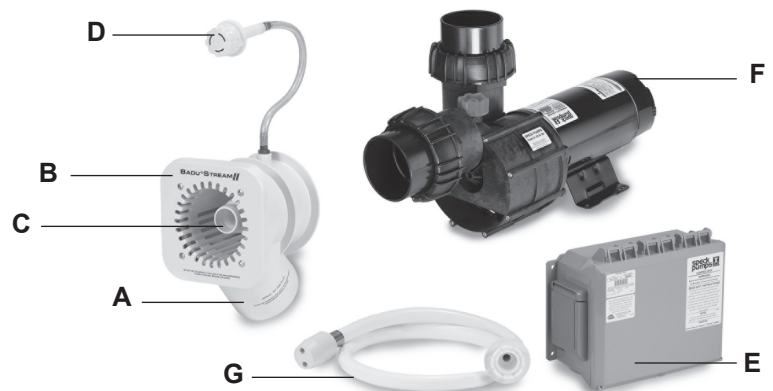

Figure 1
1. Upon receipt of the swimjet system, check the cartons for damage. Open the carton and check the pump (F), jet housing (A), and control box (E) for concealed damage, such as cracks, dents, or a bent base. If damage is found, contact the shipper or distributor where the swimjet was purchased.
2. Inspect the contents of the carton and verify that all parts are included. All parts are manufactured of corrosion-resistant material and combined in one single housing (two or three single housings for multi jet systems) which can be installed in pools of any size and shape. *(See Figure 1)*